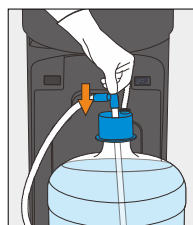

Figure 21
8. Push probe down until the tube hits the bottom of bottle (Figure 21)